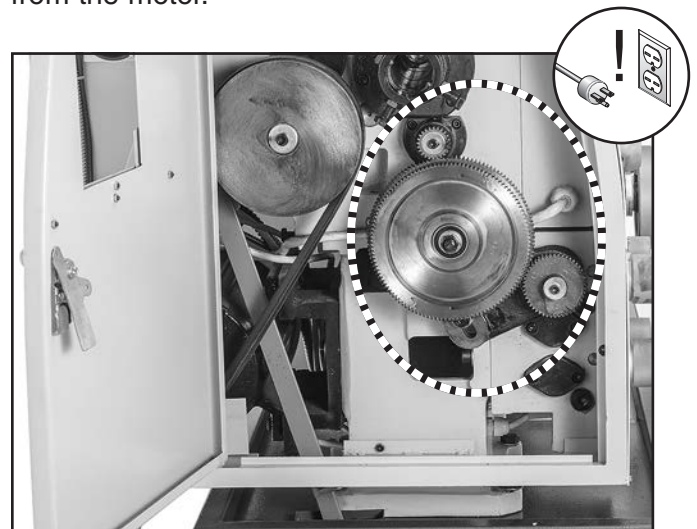

Figure 124. End gears.
The end gears, shown in **Figure 124**, should always have a thin coat of heavy grease to minimize corrosion, noise, and wear. Wipe away excess grease that could be thrown onto the V-belts and reduce optimal power transmission from the motor.
2. Open end gear cover and remove all end gears shown in **Figure 124**.